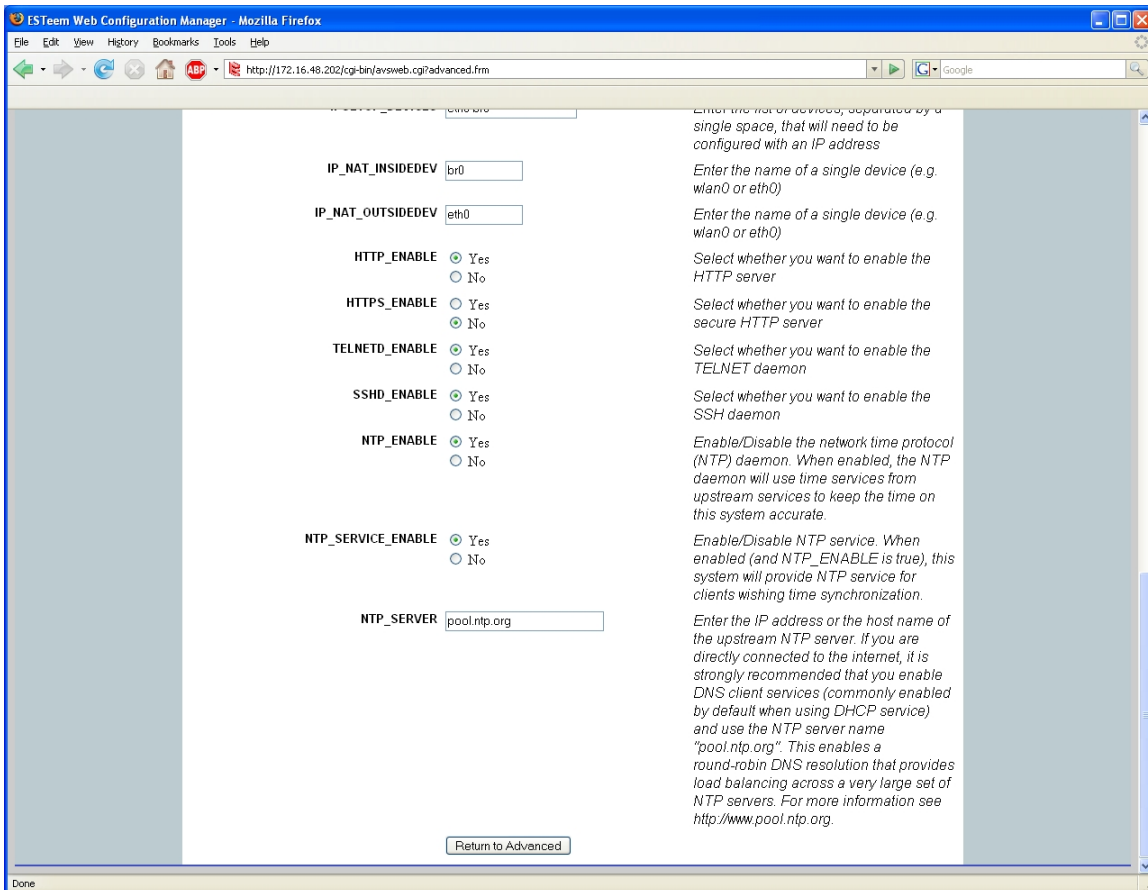

Figure 12: NTP Settings
- The NTP daemon is enabled by selecting YES for **NTP ENABLE** (Figure 12). When enabled, the NTP daemon will use time services from upstream services to keep the time on this system accurate.
- Next, the **NTP SERVICE ENABLE** should be configured to “YES,” if you want to allow the system to provide NTP service for clients wishing time synchronization (Figure 12).